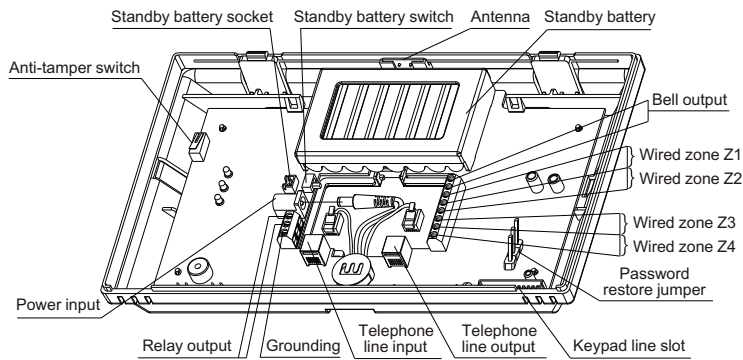

Figure 3 Control panel inside
- Power Adoption: Input 100V~240VAC 50/60Hz 0.3A, output 12VDC 1A put the output plug in the power input socket. (Refer to the figure 3)
- The control panel with 7.2V/1800mAh NH rechargeable battery as standby power, put the power cord with plug in the standby battery socket, turn the standby battery switch KP1 on (Refer to the figure 3) In working status and the battery is well charged, it can supply the system with power more than 14 hours, when the battery is low-voltage, it supply the system with power more than 1.5 hours. If standby battery is low-voltage and AC power is restored, the system will charge the standby battery.
- Connect telephone line to 'LINE_IN' interface of the control panel (Refer to the figure 3)
- Connect telephone or facsimile machine to 'LINE_OUT' interface of the controller panel, ensuring no effect on telephone. (Refer to the figure 3)